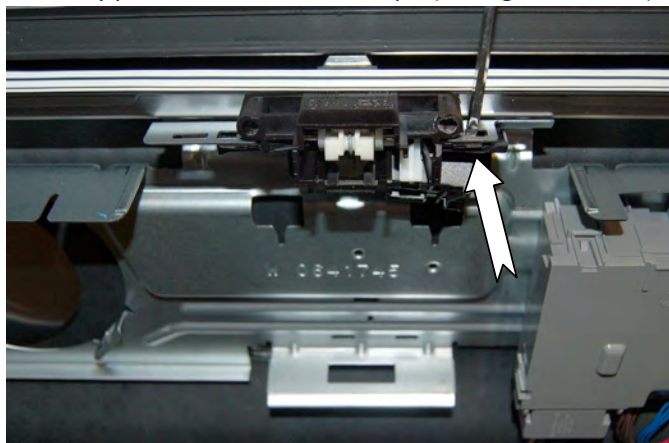

Figure 2
4. To remove door latch assembly, insert a small flat-blade screwdriver into the clip slots on each side of the latch. Gently push in to release latch clips, (see Figures 2 and 3).